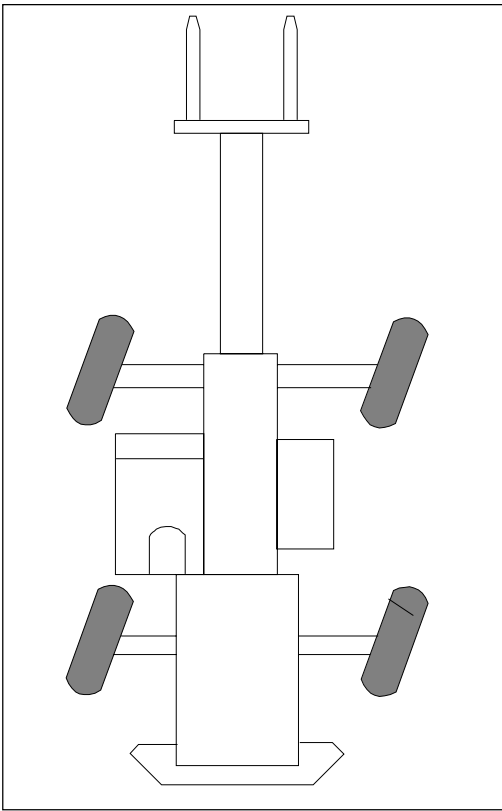

Figure 12. Oblique Steering Mode.
- a. **OBLIQUE.** (Shown in Figure 12 on the following page.) In this position all four wheels will turn in the same direction. This steering mode should not be used at speeds exceeding 2 MPH.